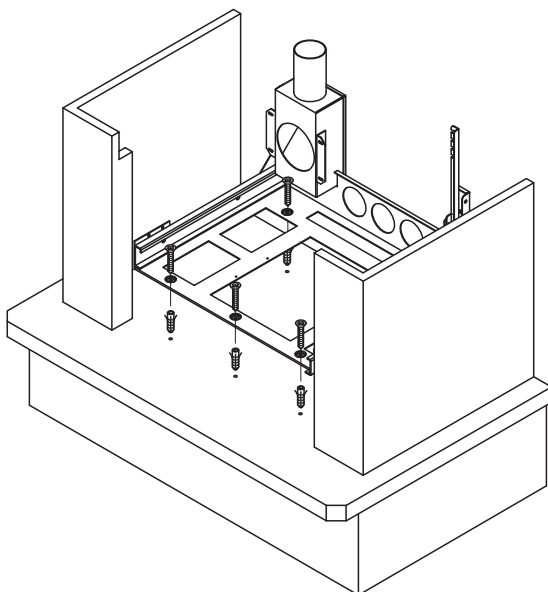

Fig. 6.1.8
- 2) Use plugs to position and fasten the base to the surface of the fireplace (Fig. 6.1.8);